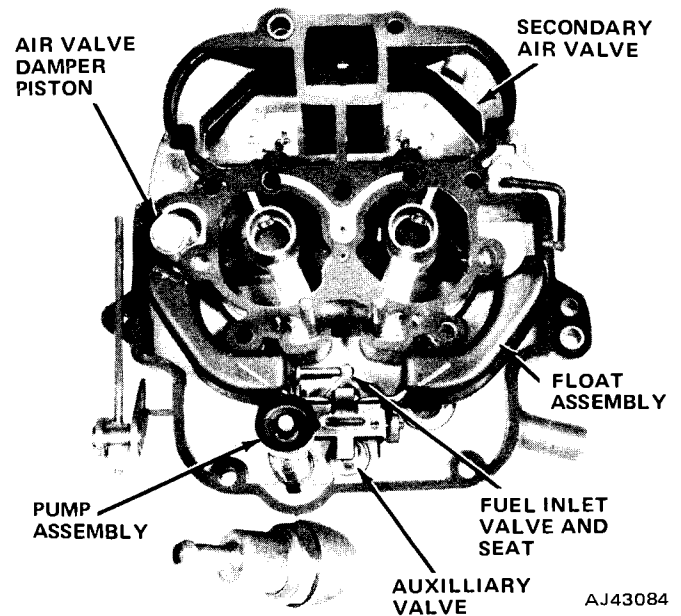

Fig. 4-71 Air Horn—Bottom View
(6) Lift air horn off main body.
(7) Pull float pivot pin and remove float assembly.
(8) Remove auxiliary fuel inlet valve with Tool J-10185 and fuel inlet needle seat with a 1/2-12 point socket (fig. 4-71).
(9) Remove secondary air valve damper link pivot pin and remove rod from link.
(10) Remove air valve damper piston, rod, and spring.
(11) If it is necessary to remove secondary air valve plate or shaft, remove the air valve plate attaching screws. Remove plate, then slide shaft out of the air horn.
(12) Remove attaching screws if it is necessary to remove choke plate or choke shaft.
(13) Remove choke plate, then slide choke shaft and lever out of air horn.